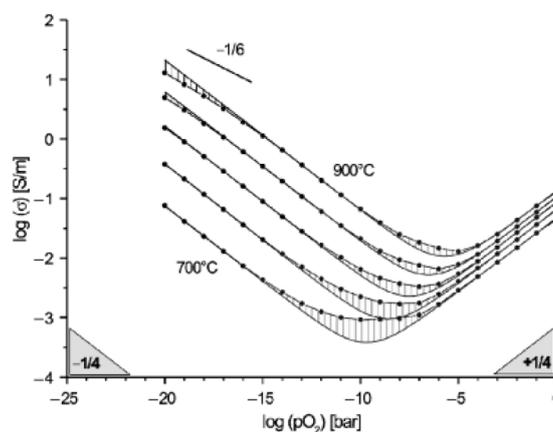

Figure 1 $\log \sigma \sim \log p\text{O}_2$ plot of acceptor-doped SrTiO₃ single crystal (Ohly *et al.*, *J. Am. Ceram. Soc.*, **89**(9) 2845–2852 (2006)).
5. Why is there a difference between the solid lines and the actual data points in Figure 1 (*i.e.*, the shaded area)? Try to calculate the migration enthalpy of oxygen vacancies by using the data in Figure 1.